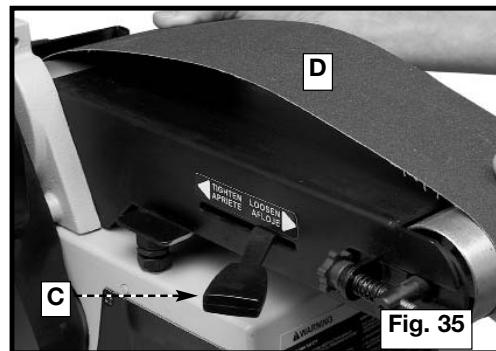

Fig. 35
2. Slide the tension lever (C) Fig. 35 to the right to release the tension on the sanding belt. Remove the sanding belt (D) from both sanding drums.
4. Apply belt tension by sliding the tension lever (C) Fig. 35 to the left.